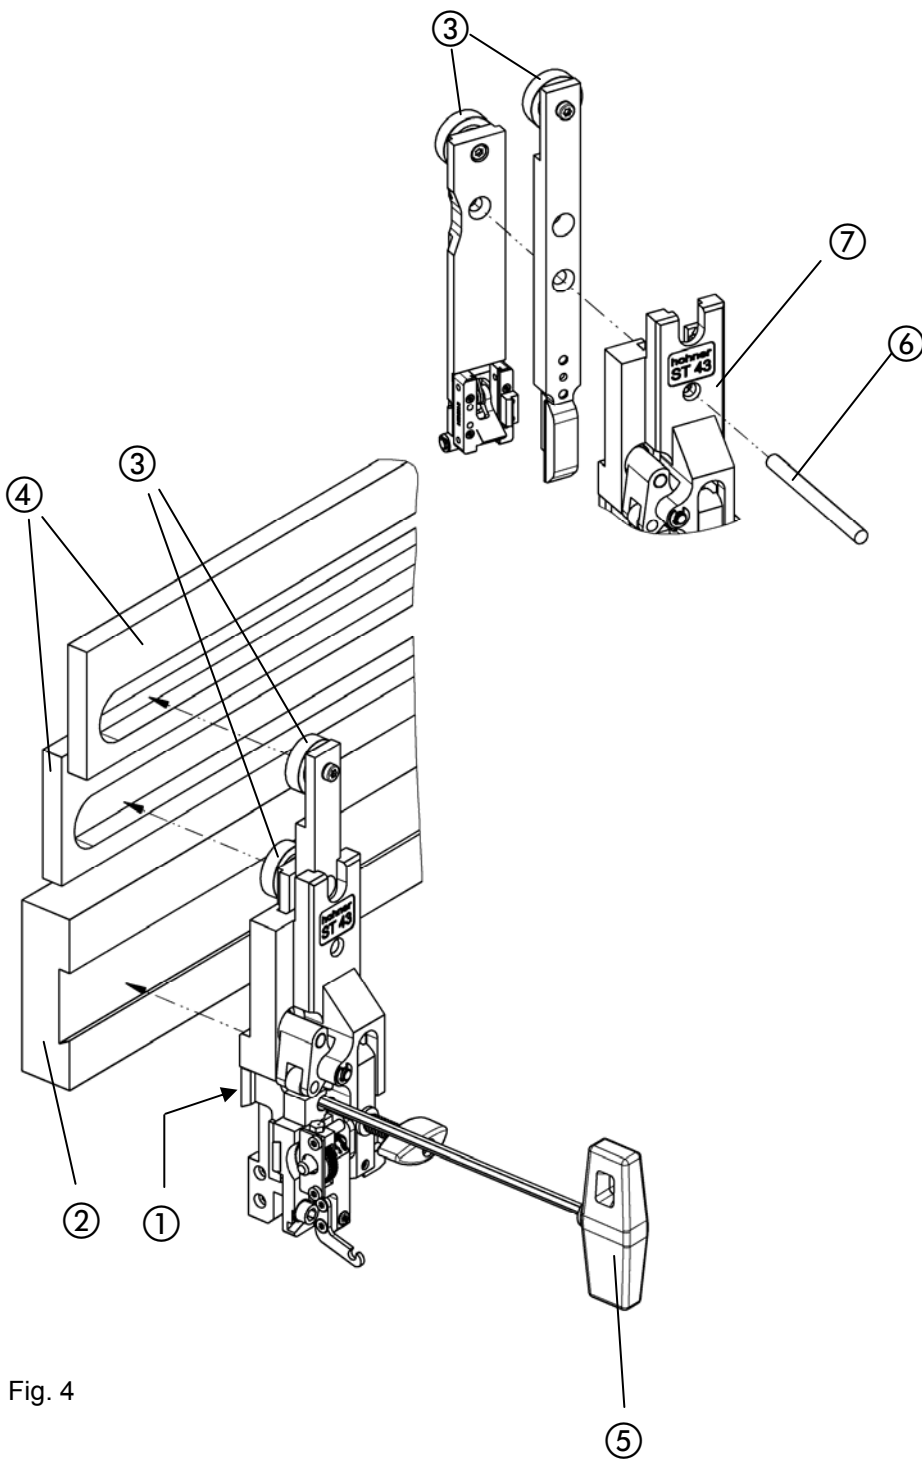

Fig. 4
- Fig. 4 -
- The mounting pin ⑥ should only be used for assembly and disassembly and **must be removed before** the stitching head is put into operation. Preserve the mounting pin carefully.
- Lead the mounting pin ⑥ through the stitching head housing and the two slides and fasten the pin **before removing the stitching head**.